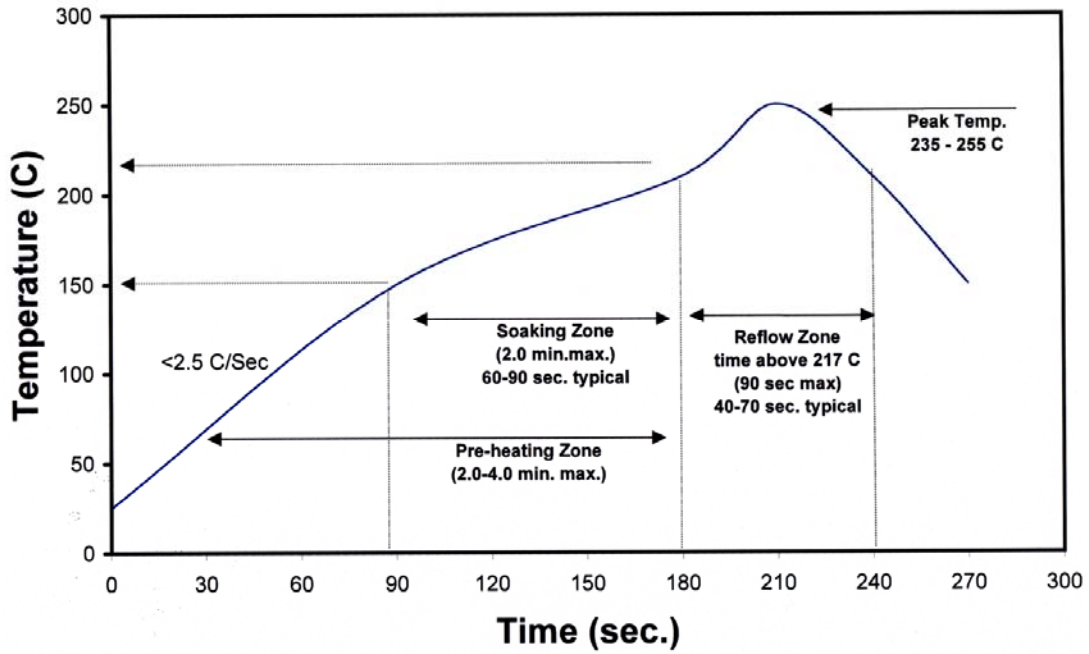

Figure 3: Reflow soldering profile for lead free soldering.
4. Solder conditions per JEDEC 020D. See Reflow Soldering Profile Figure 3